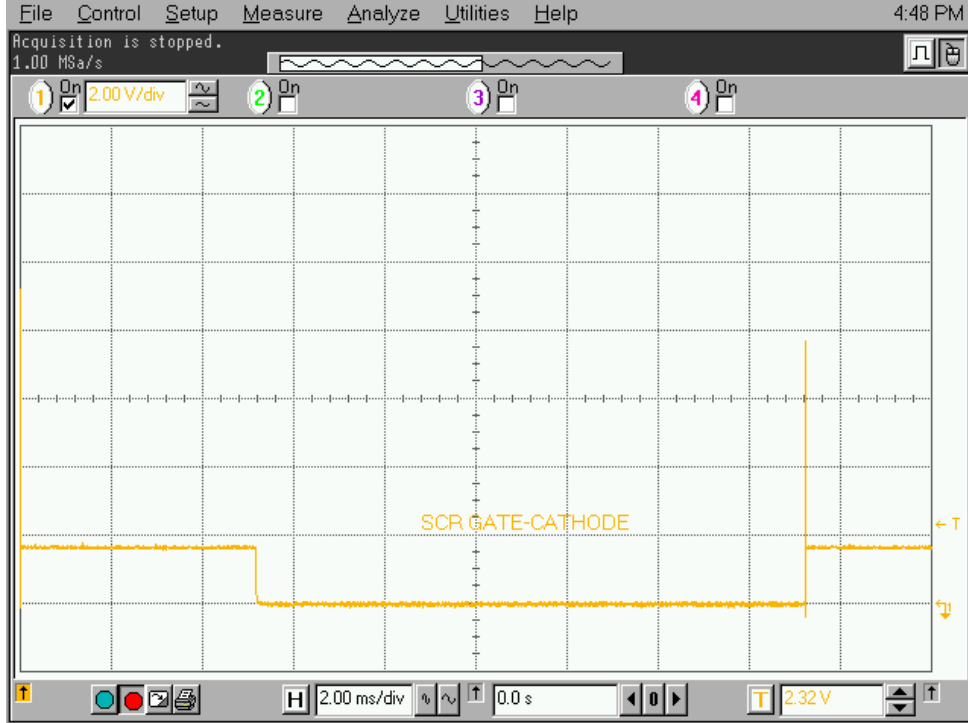

Figure 6.36 – SCR gating pulse
19. Verify that the signal between TP1 and TP2 is as shown in Figures 6.36 and 6.37.